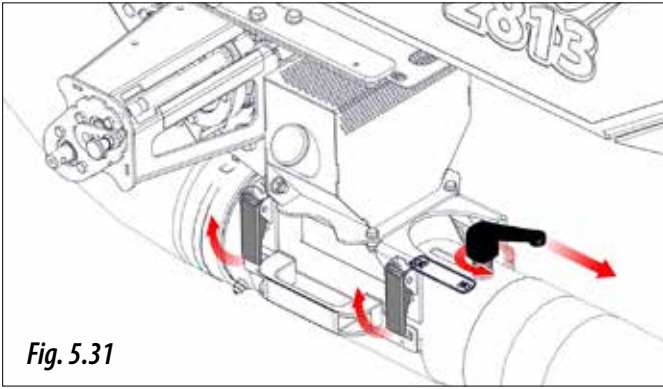

Fig. 5.31
4.A.2- Open the Venturi injector cover by lifting the two quick-release fasteners and moving the calibration control to the "NO" position (Fig. 5.31).